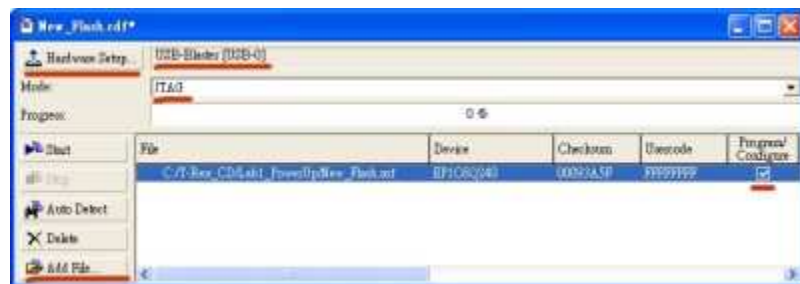

Figure 4.8. Bitstream Programming Window
- Once the programmer button is clicked, the following programming window is popped up (See Figure 4.8).